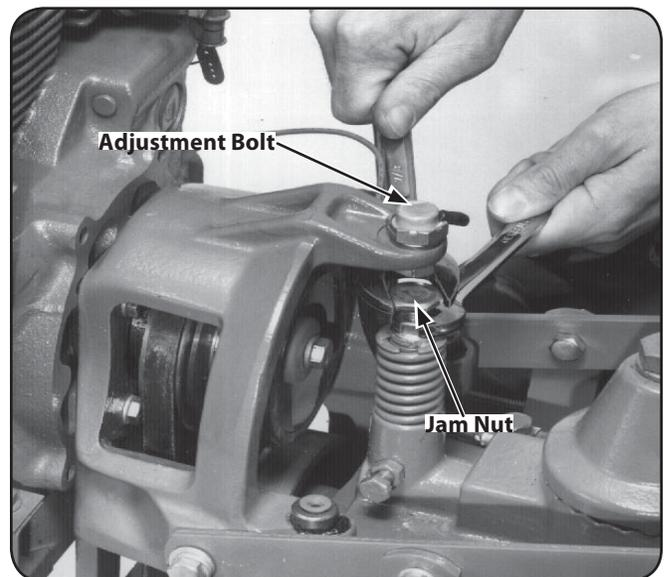

Figure 6-23
- Place a $\frac{7}{8}$ " wrench on the head of the reverse adjustment bolt and a $\frac{9}{16}$ " wrench on the jam nut below it. See Fig 6-23. Hold the bolt steady while loosening the jam nut three or four turns.
7. Check that the reverse disc is at least $\frac{3}{16}$ " away from the transmission drive pulley. Then hold the reverse adjustment bolt steady with one wrench while tightening the jam nut with a second wrench. See Fig. 6-23.